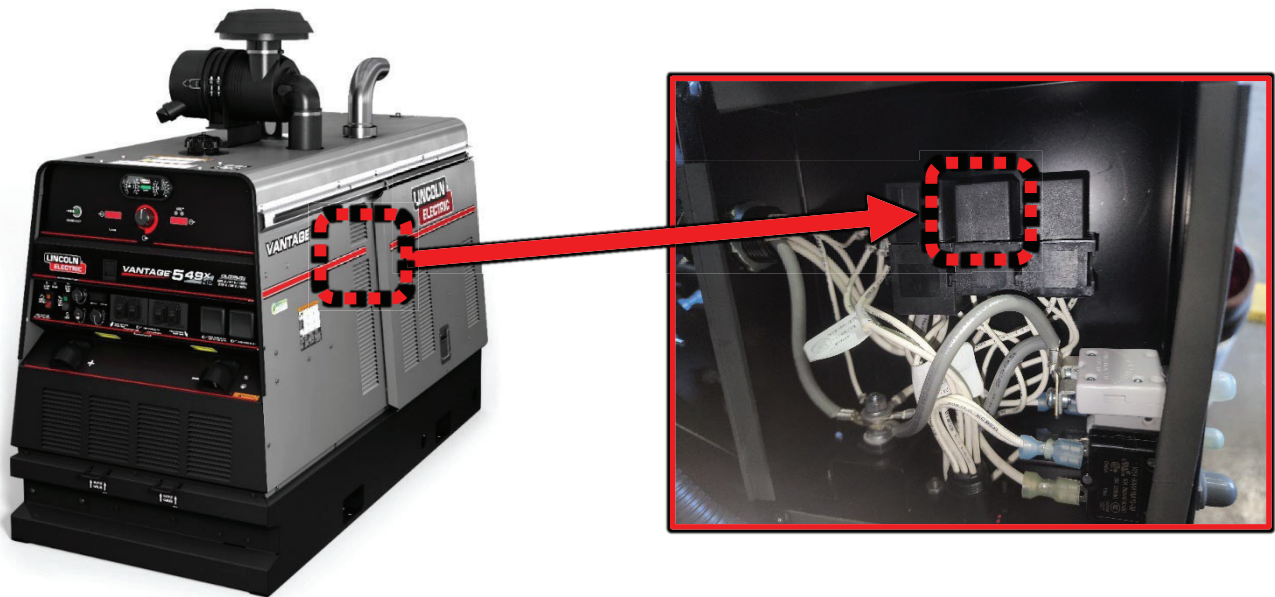

Figure F.1
1. For location of the Fuel Relay refer to Figure F.1.